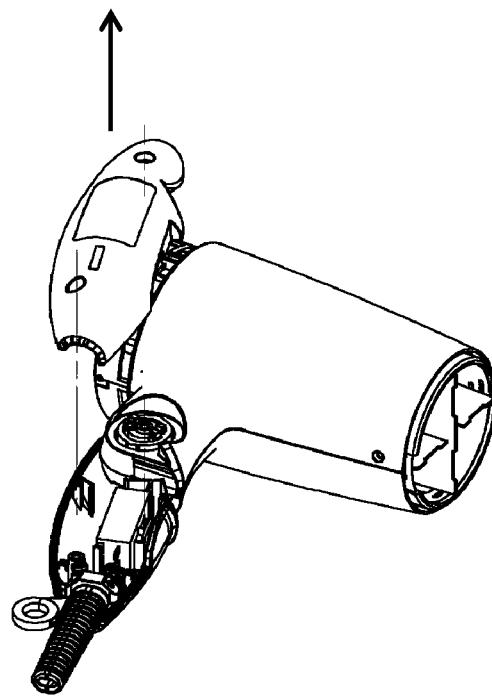

Figure 7
4. Take off a handle A from housing A and B as figure 7.